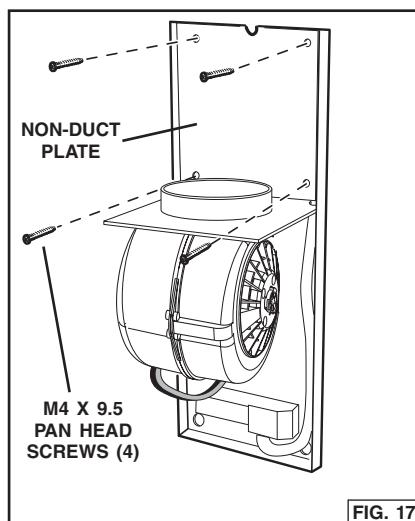

FIG. 17
6. For non-ducted applications attach the non-duct plate with four (4) M4 x 9.5 pan head screws. Make sure power cord is behind plate. Fig. 17.